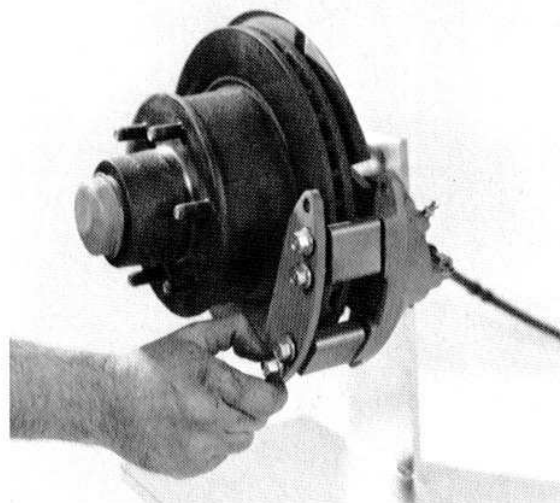
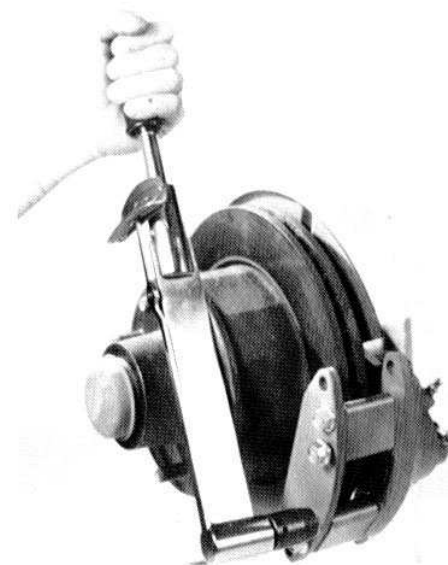

Fig. 37
Fig. 39
4. The five locknuts and bolts holding mounting bracket and dust shield to spindle flange should be torqued 25-30 lb-ft. (See Fig. 37)
Caliper housing assembly is to be inboard and towards rear of trailer and should be on the centerline of spindle arm. (See Fig. 37). Insert the five mounting bolts and lock nuts. Torque lock nuts 25-30 lb-ft. (Fig. 37)
12. Assemble two (2) spacers and secondary plate to housing with four (4) bolts. Wide part of spacer to outside. (Fig. 37). Torque bolts evenly to 45-50 lb-ft. dry torque. (Fig. 39)